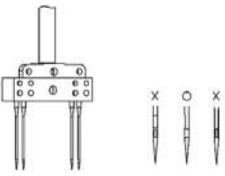

图8(Fig. 8)
- 1.拧下螺钉(A)并取下针。(图8)
1. Loosen screw (A) and take out the used needle.(Fig.8)
2. Put new needle into the holder holes as they can go and left the long groove of needle face you and Fasten Screw (A)